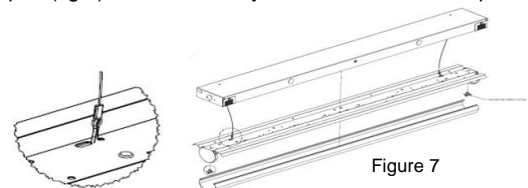

Figure 7
9. Attach the clip end of the safety cables to the holes in the back of the retrofit fixture pan (fig 7). Use two safety cables for each 4 foot pan.